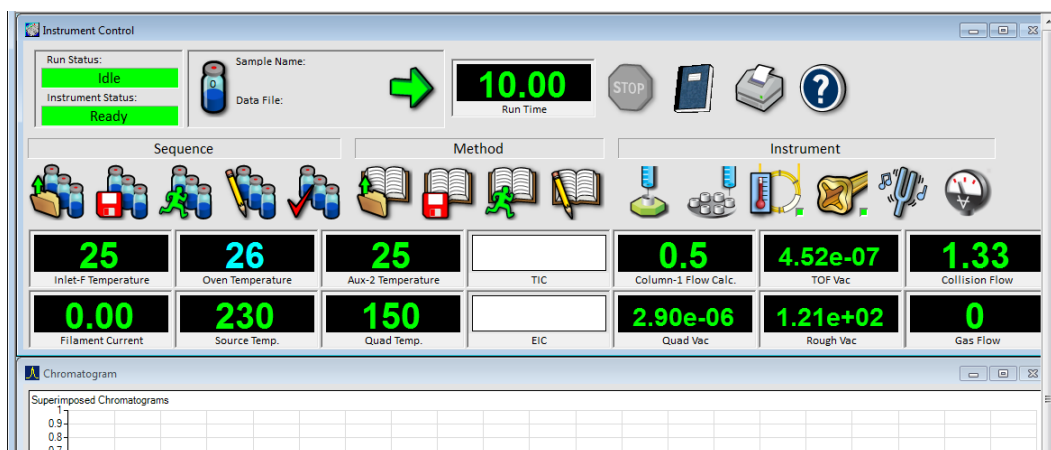

Figure 6 Arranging monitors
- 5 Select **Window > Arrange Monitors**, or click and drag each monitor to the desired position. See Figure 6 for one way of arranging the monitors.